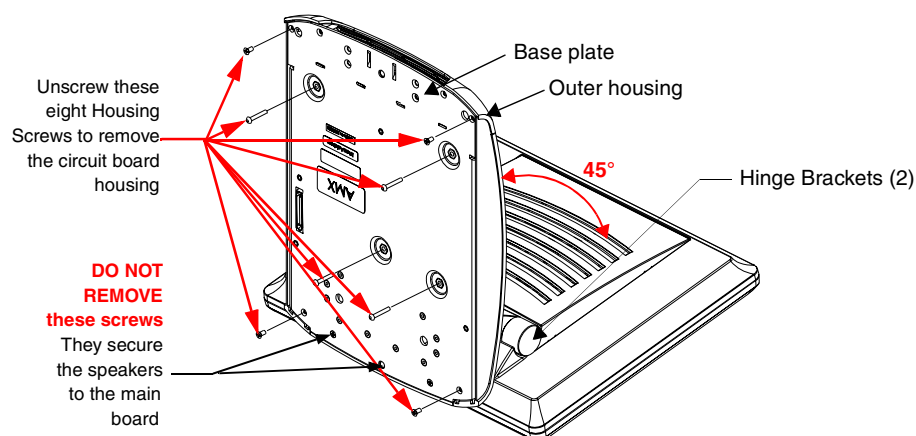

FIG. 15 Location of the attachment screws on an NXT panel
1. Carefully detach all connectors from the rear of the touch panel and then gently place the touch panel LCD facedown onto a soft cloth to expose the under-side of the base (FIG. 15). This step helps prevent scratching of the LCD.
6. Insert and secure the eight Housing Screws (using a grounded Phillips-head screwdriver) into their respective locations (FIG. 15).